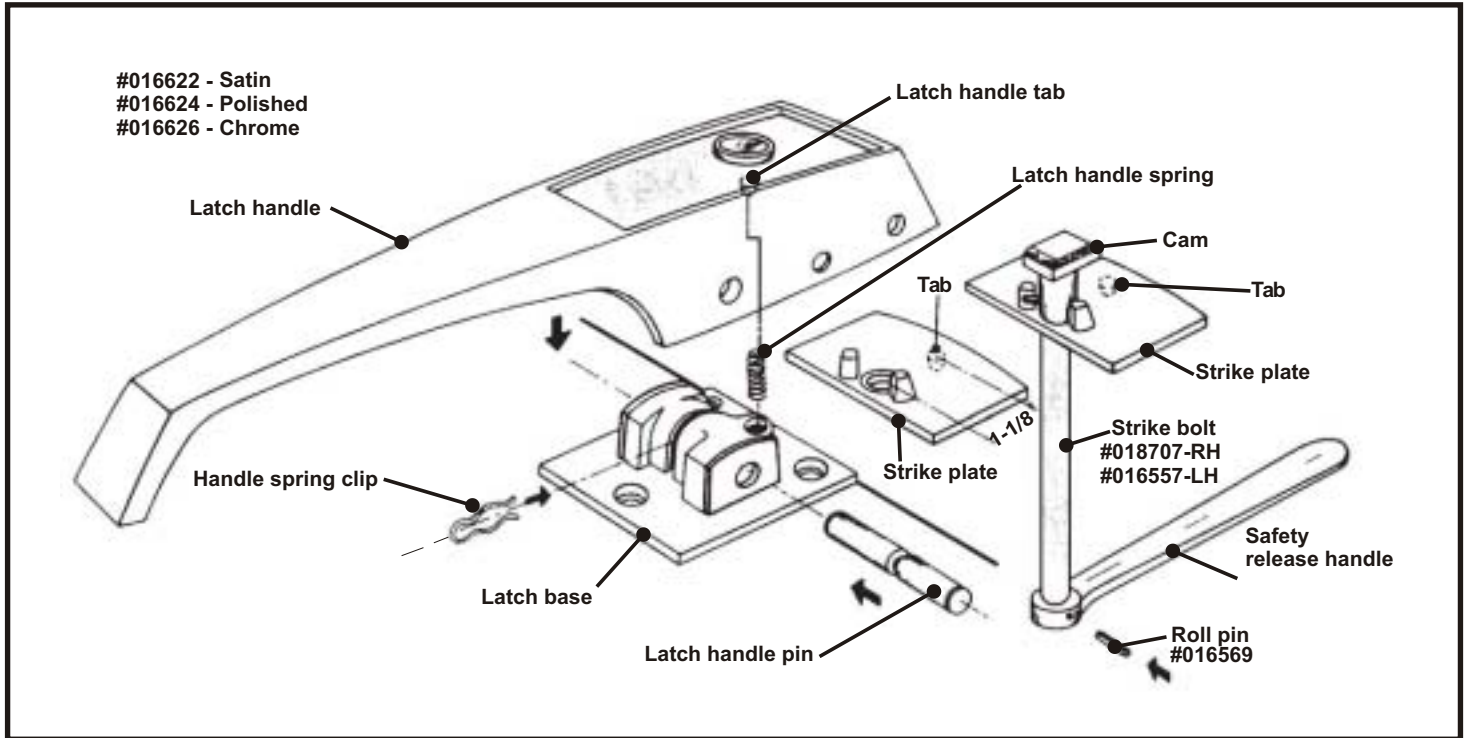

Fig. 17
- A. See Fig. 17. Remove the defective latch assembly. First remove the handle spring clip from under the handle at the back of the latch base, using a pair of needlenose pliers.
- F. Locate the new safety release handle parallel with the strike bolt cam and tight against the interior of the walk-in wall. Drill a 1/8" d. hole into the strike bolt and insert the roll pin as shown in Fig. 17. The fit should be fairly tight when the handle is moved upwards.